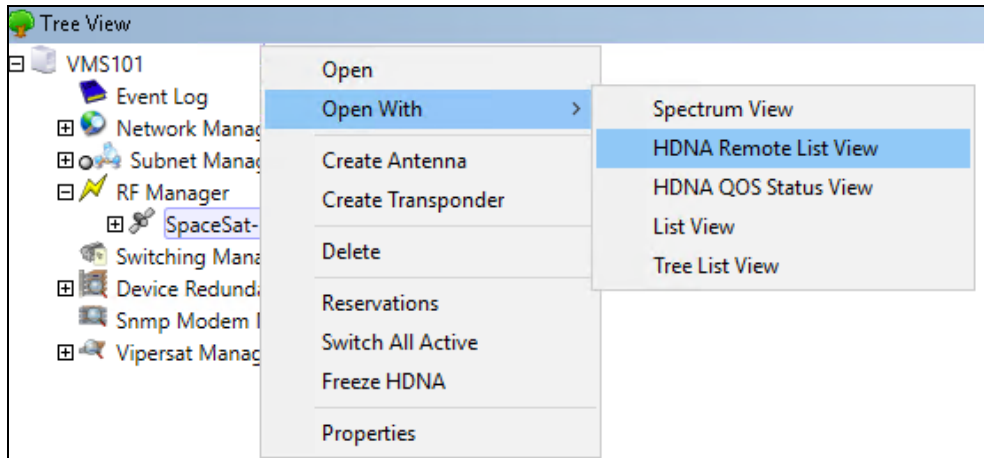

Figure 6-11 Open With > Selection Menu
- **Open With** provides multiple view selection, see figure 6-11